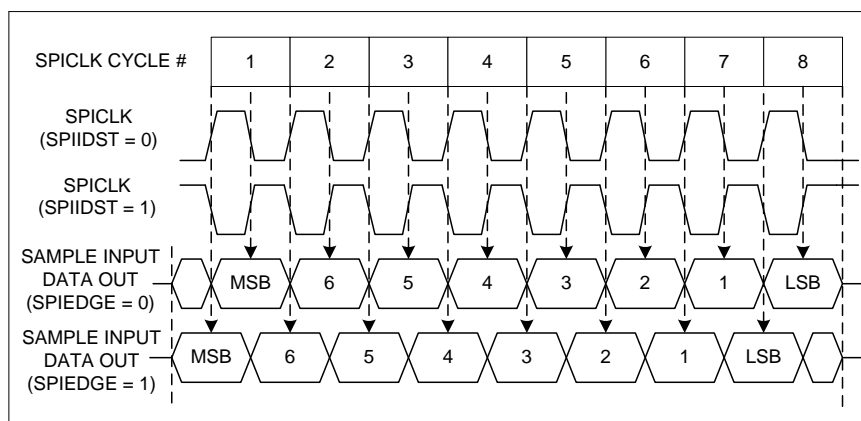

Figure 10-1 SPI timing
5. Select one of the four timing mode (refer to *Figure 10-1*)
5. Select one of the four timing modes (refer to *Figure 10-1*)